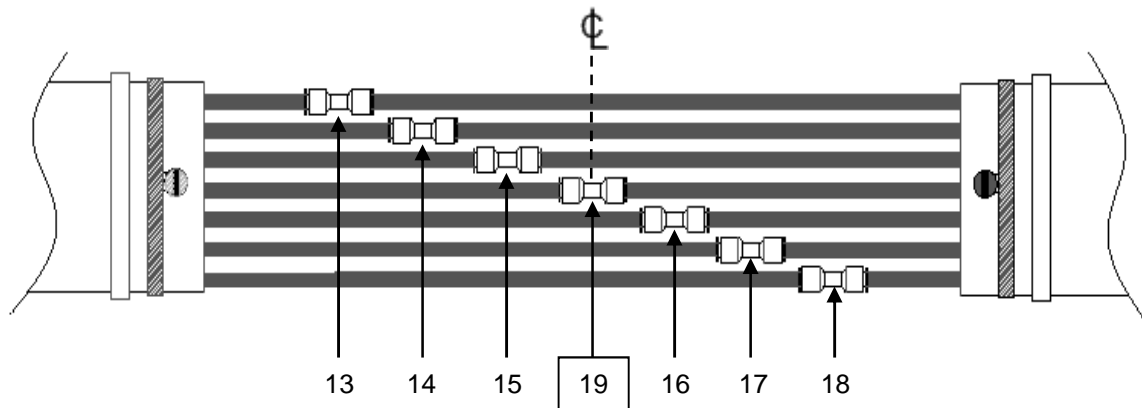

Figure 11
10.3 Chose one tube cable. Locate, measure and mark its Tube 19 at one half Strip Length dimension recorded earlier. See Fig. 11.